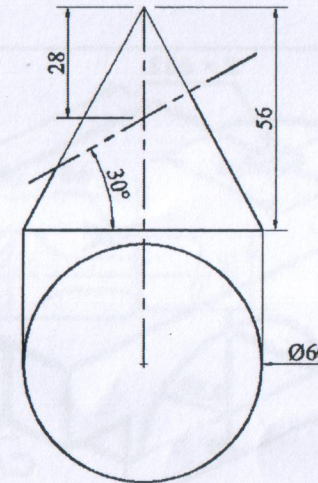

Figure 2
4. If a cutting plane cuts a right circular cone into given position, as shown in figure 2. Reproduce the given views of the object and draw sectional 18